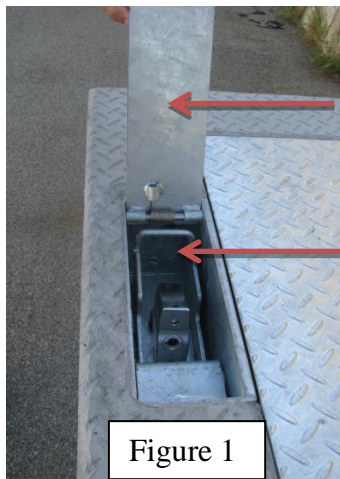

Figure 1
1. Enter the lock box via flap, unlock & remove padlock (See Figure 1)
4. Close Hasp lever (See Figure 1)